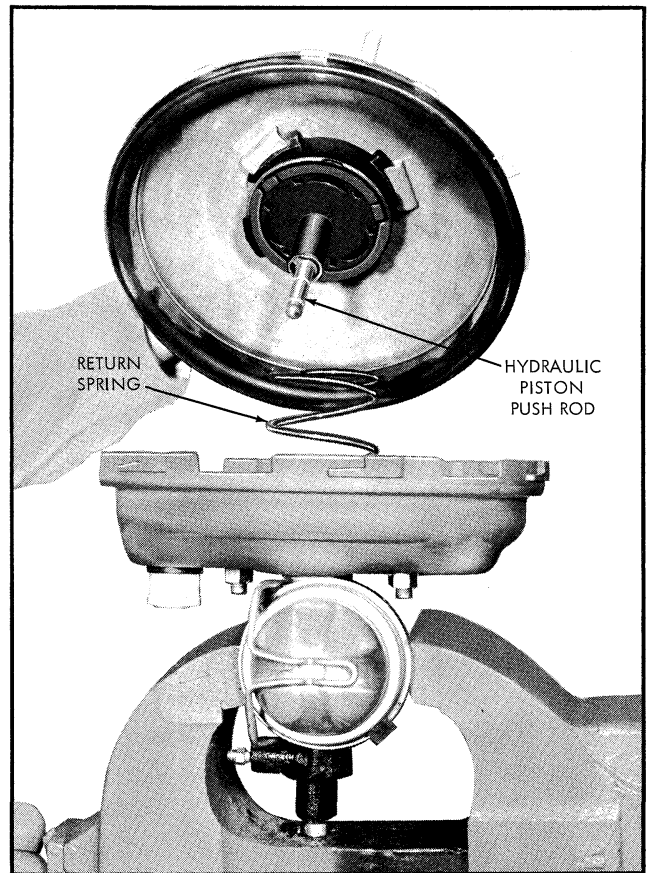

Fig. 5A-7 Removing Rear Housing
6. Press down on support plate and rotate counterclockwise until support plate separates from power piston (Fig. 5A-10).